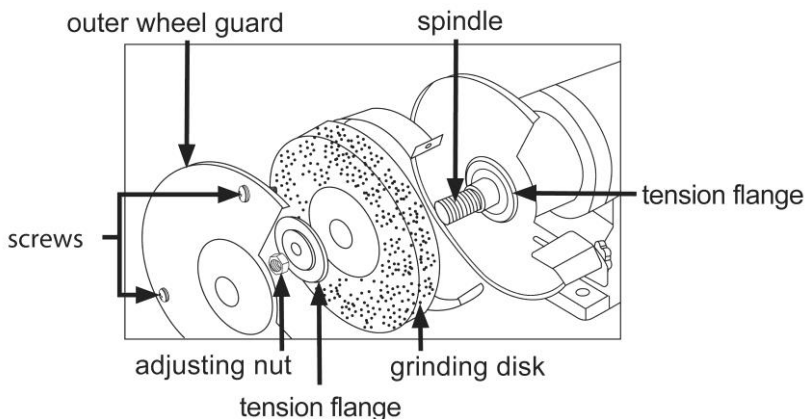

Fig.4
1. Remove the viewing window (4) with spark deflector (5) and the outer wheel guard (6).The wheel guard can be removed by removing the three screws on the outside with a Philips screwdriver. (Fig.4).